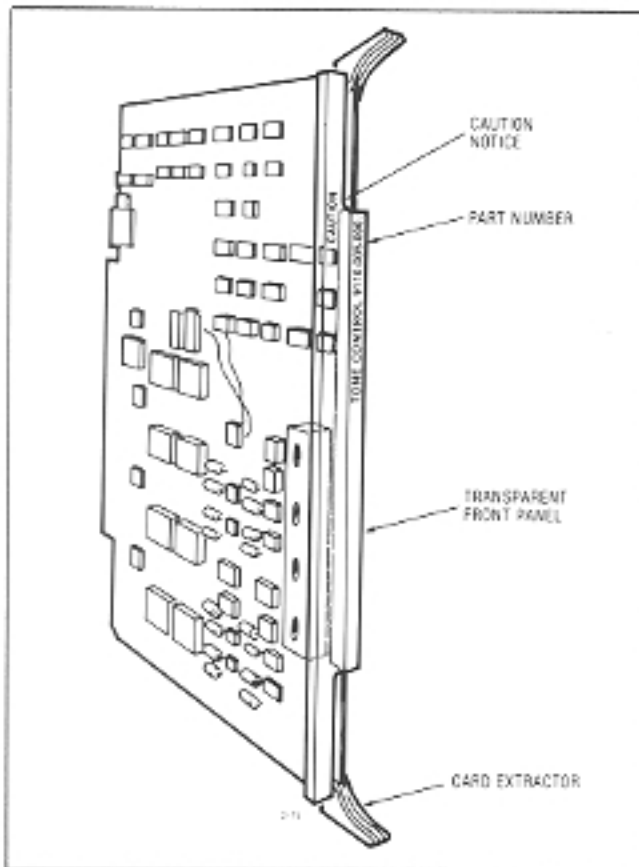

Fig. 2-4 Typical Printed Circuit Card
2.13 All circuit cards (Fig. 2-4) within the SX-200 are identical in construction and consist of a fiberglass board with printed wiring patterns on both of its faces. Riveted to the front of each board is a transparent faceplate which allows the LEDs mounted on the front of the boards to be easily seen. The color-coded card extractors located at the top and bottom of the faceplate identify the card position within a shelf and ensure that the card is seated correctly in the back plane connector.